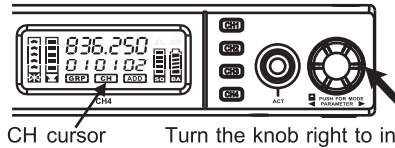

Fig. 14
- (1) Press the rotary button to select parameters. GRP cursor blinks to denote it can be changed readily.
- (2) Turn the knob right to increase or left to decrease a GRP number.
- (3) Press the knob again, GRP number stops blinking and saves the new group number automatically.
(B) CHANNEL Setting. Fig. 14: